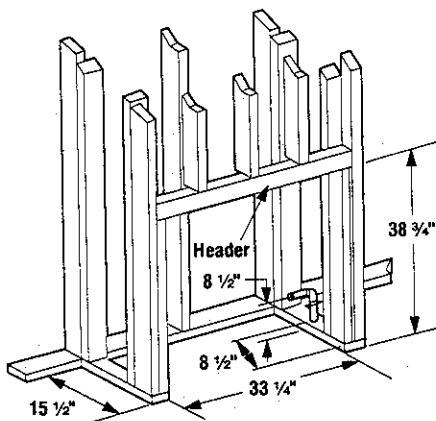

Figure 5
Step 1. Frame appliance enclosures as illustrated in Figures 5, 6, 7 and 8. For surround installations proceed to Step 6.